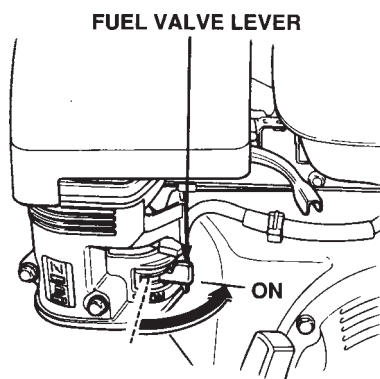

Figure 10. Fuel Shut-Off Lever
1. Move the fuel shut-off lever (Figure 10) to the **ON** position.